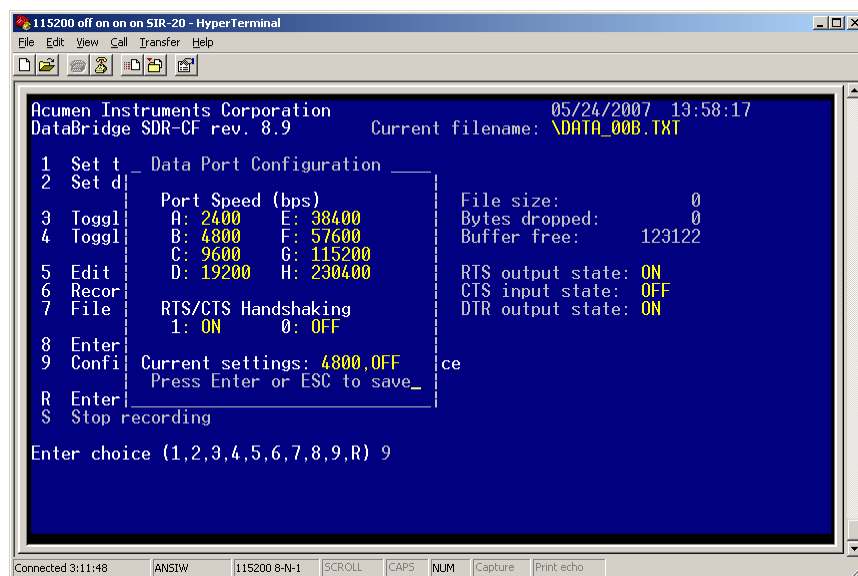

Figure 4: Data Port Configuration menu.
- 13** Press 9 to view the Data Port Configuration (Figure 4). Be sure the current settings are appropriate for the GPS you are using.
- 16** Press 9 to view the Data Port Configuration (Figure 4). Be sure the current settings are appropriate for the GPS you are using.